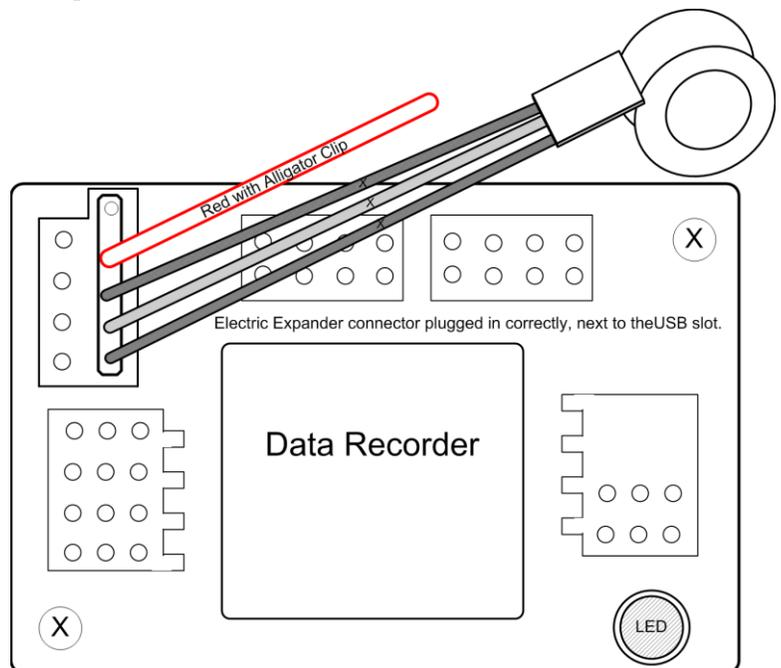

Figure 1a
Connect the polarized, 5 pin Electric Expander connector to the recorder as shown in Figure 1a. NOTE: The plug is a tight fit – slightly tilting the 5 pin connector back toward the center of the Recorder can aid installation. If you still have problems fitting it, you might need to lightly sand the top of the connector (nearest the red wire) with sandpaper, but this should not be necessary.
**EXTREMELY IMPORTANT:** The Electric Expander Connector **\*\*MUST\*\*** be connected correctly to your Recorder, or severe damage to the Recorder and other equipment could occur, which will void the warranty. The Expander connects as shown in Figure 1A, to the right of the USB connector, with the RED wire of the connector facing UP. If you are uncertain as to how to connect the expander, don't hesitate to email us at [support@eagletreesystems.com](mailto:support@eagletreesystems.com)!